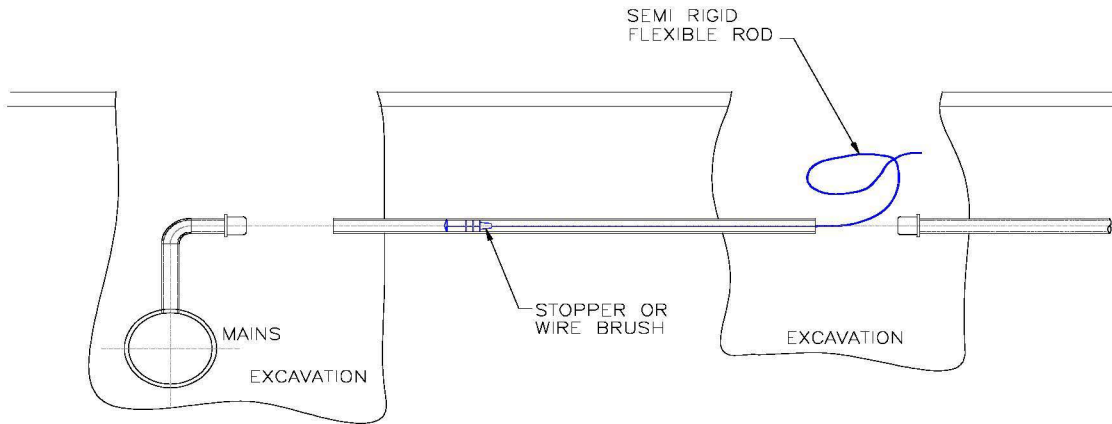

Figure B2 - Internal cleaning of metallic service
7. Ensure the inside of the host pipe is clean (Figure B2) and de-burred or where appropriate cleaned. If necessary, the service may be blown clear with air (from the meter position outwards). Collect any dust and debris and dispose of in the approved manner. A collective bag and pipe ties should be made available.